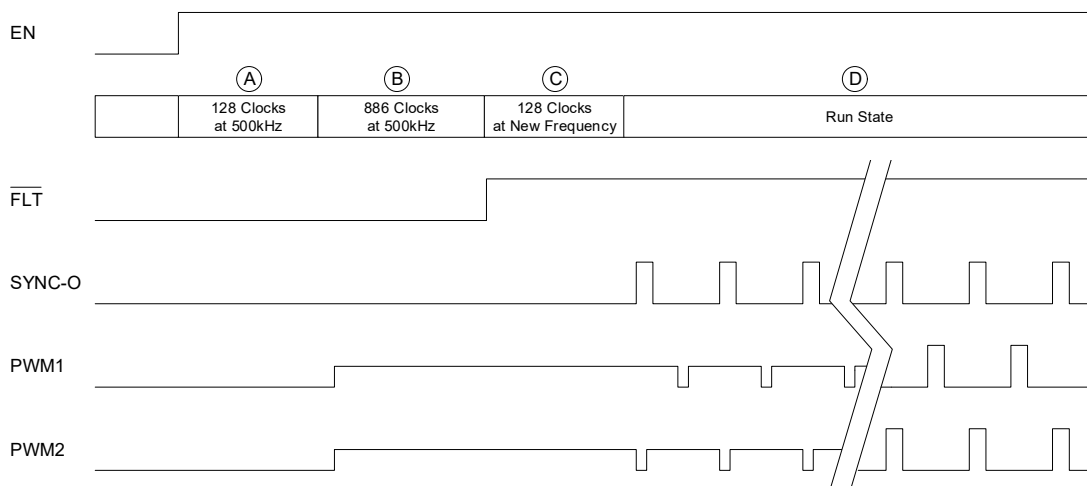
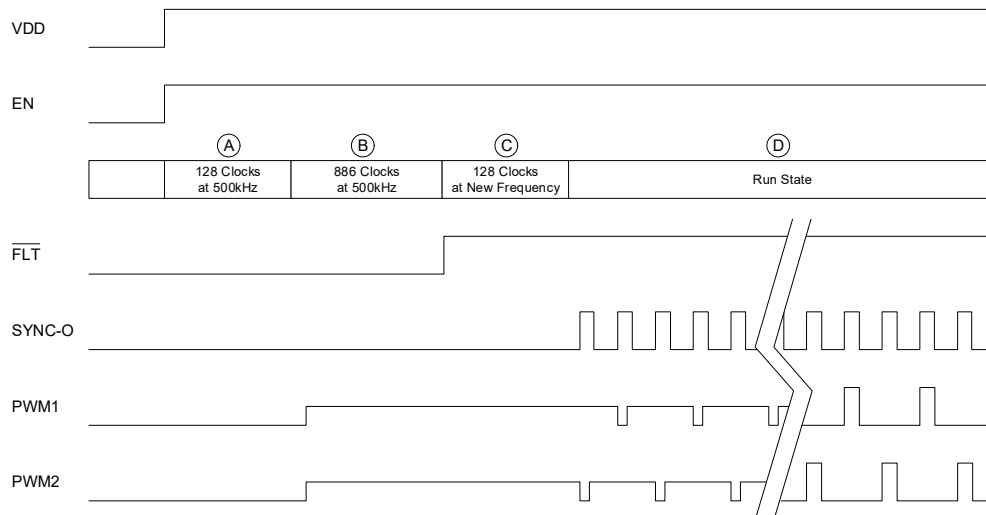

Figure 45. Start-Up Timing Diagram (RSYNC-O = OPEN)
Figure 46. Start-Up Timing Diagram ( $R_{\text{SYNC-O}} = 100\text{k}\Omega$ )
When the ISL73847SEH first powers up, it goes through several states before boot refresh and soft-start. After VDD has crossed the rising UVLO threshold, the oscillator waits for 128 clock cycles at 500kHz before allowing the digital core to enter its configuration state. The configuration state lasts 886 clock cycles at 500 kHz. When the digital core completes its configuration, it signals the oscillator to switch to the frequency set by the FS pin or SYNC-I. After an additional 128 clock cycles at the new frequency, boot refresh pulses commence, followed by soft-start. Figure 45 and Figure 46 illustrate the start-up sequence.
During states A and C in Figure 45 and Figure 46, the oscillator blanks the clock signal to the digital core. Therefore, the oscillator has time to stabilize its frequency before entering the configuration state (B) or run state (D).